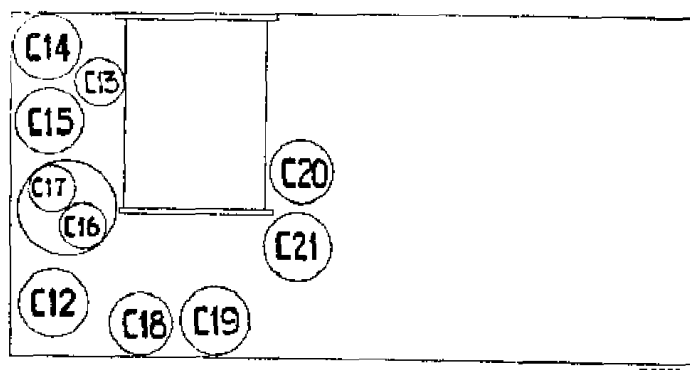

Fig. 5
7. Trim C16, C15, C14, C15, C16, in that order for maximum output (fig. 5).